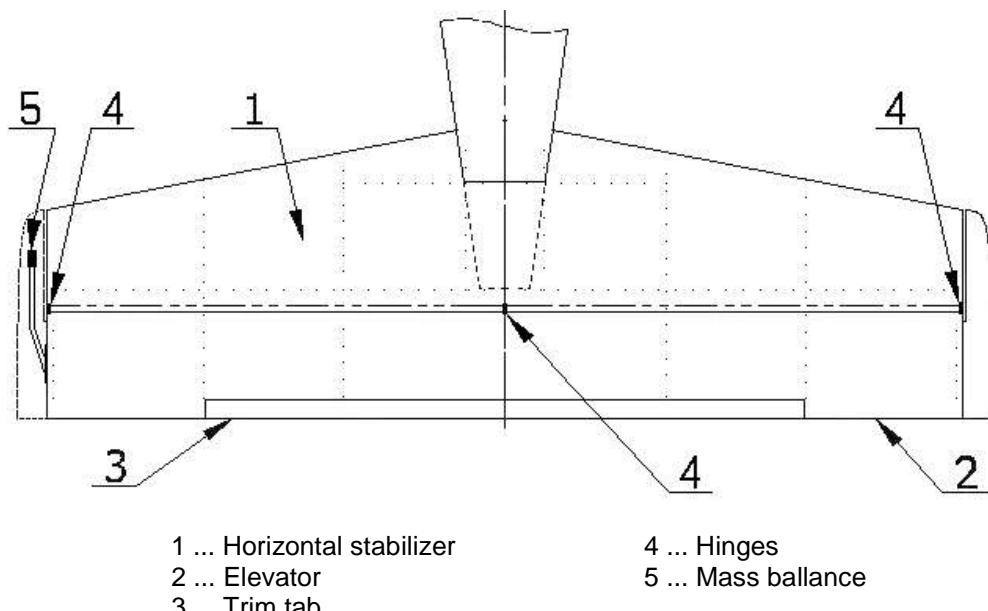

Fig. 5-1: Horizontal stabilizer with elevator
Horizontal stabilizer (1) (see Fig. 5-1) is of the all-metal structure consisting of the two spars, ribs and aluminum skin. Individual parts are assembled by riveting. The elevator is attached to the rear spar by means of three hinges (4). The horizontal stabilizer is mounted on the fuselage by means of front and rear attachments (5) (see Fig. 5-2). The front attachments consist of two pins, which are riveted on bulkhead No. 12 and bushings riveted on front stabilizer spar. The rear attachments consist of two hinges bolted on sides of bulkhead No. 13.
Elevator (2) (see Fig. 5-1) is of all-metal structure and consists of aluminum skin, spar and ribs. Individual parts are assembled by riveting. Control lever is riveted on middle elevator rib. Mass ballances (5) are riveted at the both elevator ends and covered composite tips. The elevator is equipped with the trim tab (3), which is hinged by means of the piano hinge on the rear spar close to the trailing edge of the elevator. The trim tab is made of aluminum sheet.
- (e) Disconnect the bolts from all three hinges (4) (see Fig.5-1).
- (c) Insert all three bolts and nuts in the hinges (4) (see Fig.5-1).
- (e) Connect the trim tab actuator wires (3).